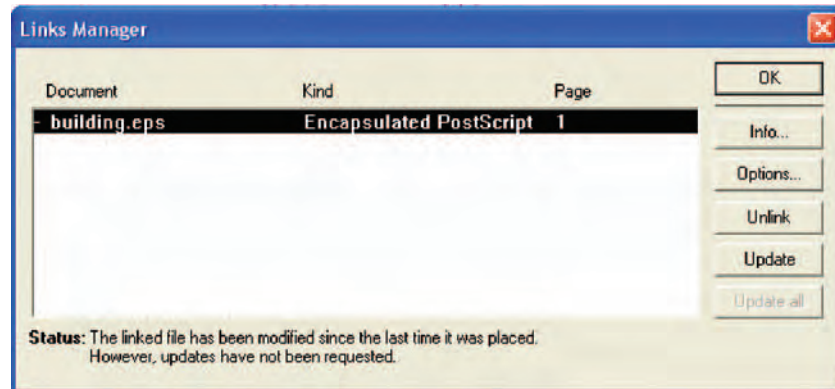

Fig. 10.6 The Links Manager dialog of PageMaker
8. Go back into **PageMaker** and *click* **Links Manager...** in the **File** drop-down menu. The **Links Manager** dialog appears (Fig. 10.6).